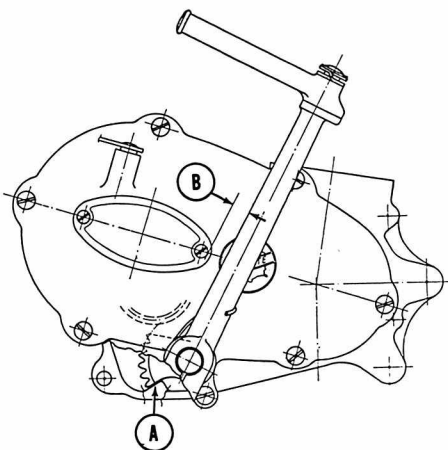

Fig. A2-9—Refer to text when installing the kick starter pedal.
Use light grease to hold the 17 loose rollers in the bearing cages (45 & 54) when assembling. Before installing the kick starter pedal (24), turn the starter shaft counter-clockwise until gear contacts case as shown at (A—Fig. A2-9). Install starter lever on shaft so that distance (B) between lever and front of screw is  $\frac{1}{4}$ – $\frac{1}{2}$  inch, then hook return spring over lever.